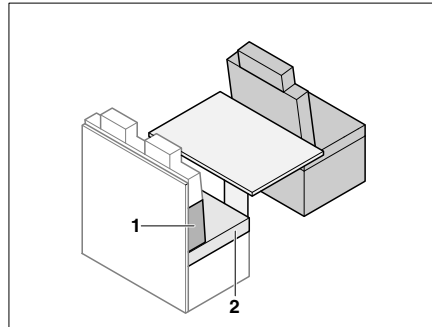

Fig. 190 Prior to conversion
- Remove the seat cushion (Fig. 190,2).